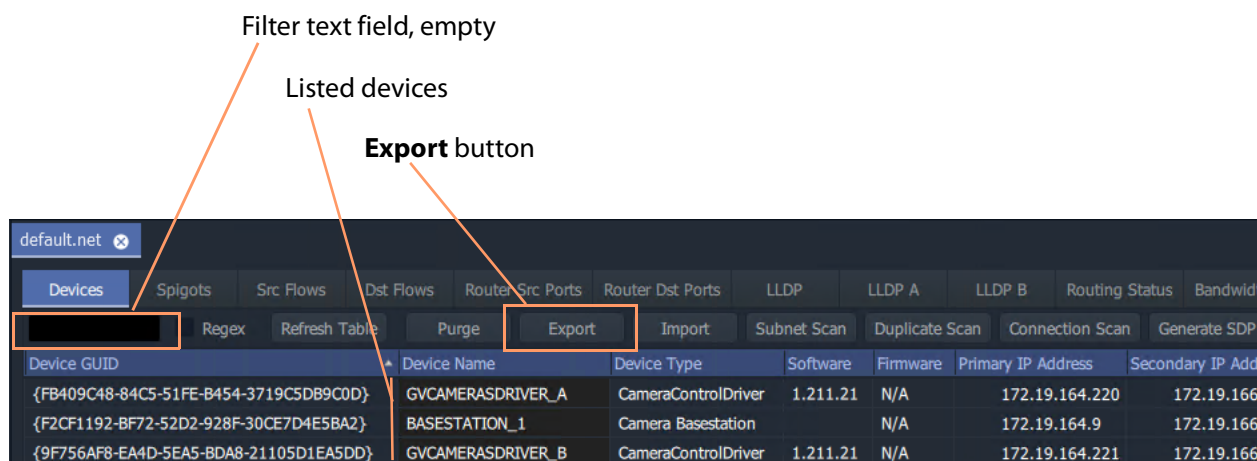

Fig. 11-30: Devices Tab - Export Button
- 1 Ensure that the filter text field is empty (see Figure 11-30).